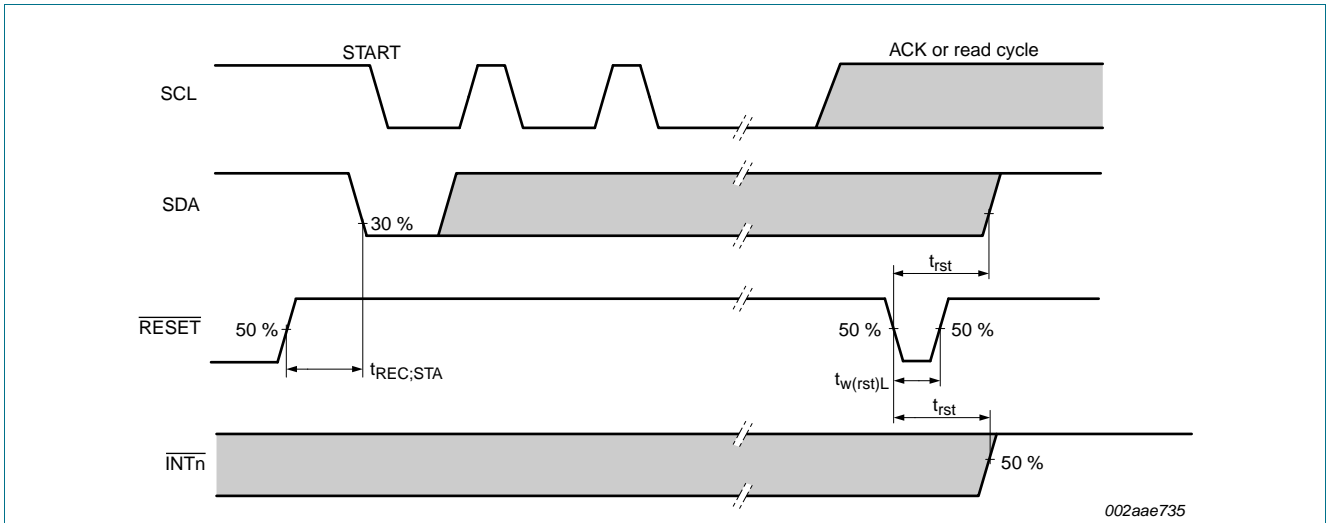

Fig 25. Definition of RESET timing
Modifications:	<ul style="list-style-type: none"> <li>Type numbers PCA9541D//02, PCA9541PW/02 and PCA9541BS/02 are withdrawn; this affects:               <ul style="list-style-type: none"> <li><a href="#">Section 1 "General description"</a>, 2nd paragraph modified; (old) 11th paragraph deleted</li> <li><a href="#">Section 2 "Features and benefits"</a>, (old) 4th bullet item deleted</li> <li><a href="#">Table 1 "Ordering information"</a> modified</li> <li><a href="#">Table 2 "Marking codes"</a> modified</li> <li><a href="#">Figure 2</a>, <a href="#">Figure 3</a> and <a href="#">Figure 4</a> modified</li> <li><a href="#">Table 6 "Register 0 - Interrupt Enable (IE) register bit description"</a>, <a href="#">Table note [1]</a> modified</li> <li><a href="#">Table 8 "Register 1 - Control Register (B1:B0 = 01b) bit description"</a>, <a href="#">Table note [1]</a> modified</li> <li><a href="#">Table 11 "Default Control Register values"</a> modified</li> <li><a href="#">Table 14 "Register 2 - Interrupt Status (ISTAT) register bit description"</a>, <a href="#">Table note [1]</a> modified</li> <li><a href="#">Section 8.5 "Power-on reset"</a>, (old) 2nd bullet item deleted</li> <li><a href="#">Section 8.6 "External reset"</a>, (old) 2nd bullet item deleted</li> <li><a href="#">Section 10.2 "High reliability systems"</a>, 1st paragraph modified</li> </ul> </li> <li>(Old) Table 16 "Static characteristics (2.3 V to 3.6 V)" and (old) Table 17 "Static characteristics (3.6 V to 5.5 V)" are merged.</li> <li><a href="#">Table 16 "Static characteristics"</a>, sub-section "Supply":               <ul style="list-style-type: none"> <li><math>I_{stb}</math> (Typ) at condition <math>V_{DD} = 2.3\text{ V to }3.6\text{ V}</math> changed from "10 <math>\mu\text{A}</math>" to "30 <math>\mu\text{A}</math>"</li> <li><math>I_{stb}</math> (Max) at condition <math>V_{DD} = 2.3\text{ V to }3.6\text{ V}</math> changed from "100 <math>\mu\text{A}</math>" to "80 <math>\mu\text{A}</math>"</li> <li><math>I_{stb}</math> (Typ) at condition <math>V_{DD} = 3.6\text{ V to }5.5\text{ V}</math> changed from "10 <math>\mu\text{A}</math>" to "40 <math>\mu\text{A}</math>"</li> <li><math>I_{stb}</math> (Max) at condition <math>V_{DD} = 3.6\text{ V to }5.5\text{ V}</math> changed from "200 <math>\mu\text{A}</math>" to "100 <math>\mu\text{A}</math>"</li> </ul> </li> <li><a href="#">Table 16 "Static characteristics"</a>, sub-section "Input SCL_MSTn; input/output SDA_MSTn (upstream and downstream channels)":               <ul style="list-style-type: none"> <li>for condition <math>V_{DD} = 3.6\text{ V to }5.5\text{ V}</math>, deleted <math>I_{L}</math> and <math>I_{H}</math> specifications (was in old Table 17)</li> </ul> </li> <li><a href="#">Table 16 "Static characteristics"</a>, sub-section "Select inputs A0 to A3, <math>\overline{\text{INT\_IN}}</math>, <math>\overline{\text{RESET}}</math>":               <ul style="list-style-type: none"> <li>for condition <math>V_{DD} = 3.6\text{ V to }5.5\text{ V}</math>, <math>I_{L1}</math> (Max) changed from "+50 <math>\mu\text{A}</math>" to "+1 <math>\mu\text{A}</math>" (from old Table 17)</li> </ul> </li> <li><a href="#">Table 16 "Static characteristics"</a>, sub-section "Pass gate":               <ul style="list-style-type: none"> <li>for condition <math>V_{DD} = 3.6\text{ V to }5.5\text{ V}</math>, <math>I_{L}</math> (Max) changed from +100 <math>\mu\text{A}</math> to +1 <math>\mu\text{A}</math> (was in old Table 17)</li> </ul> </li> <li><a href="#">Figure 25 "Definition of RESET timing"</a> modified:               <ul style="list-style-type: none"> <li>changed signal name from "LEDx" to "<math>\overline{\text{INTn}}</math>"</li> <li>deleted "LED off"</li> </ul> </li> </ul>